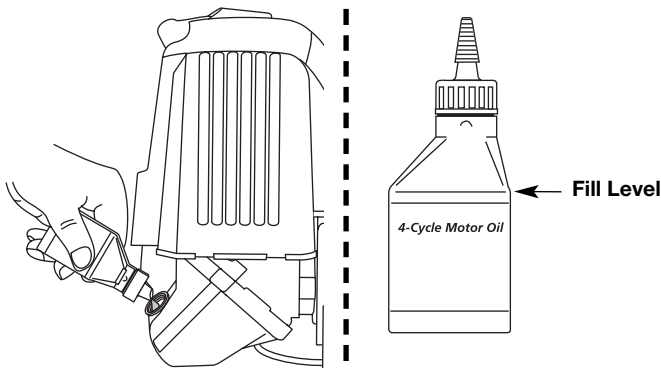

Fig. 22
**NOTE:** Use the bottle and spout saved from initial use to measure the correct amount of oil. The top of the label on the bottle measures approximately 3.04 ounces (90 ml) (Fig. 22). Check the level with the dipstick. If the level is low, add a small amount of oil and recheck. Do not overfill (Fig. 22).